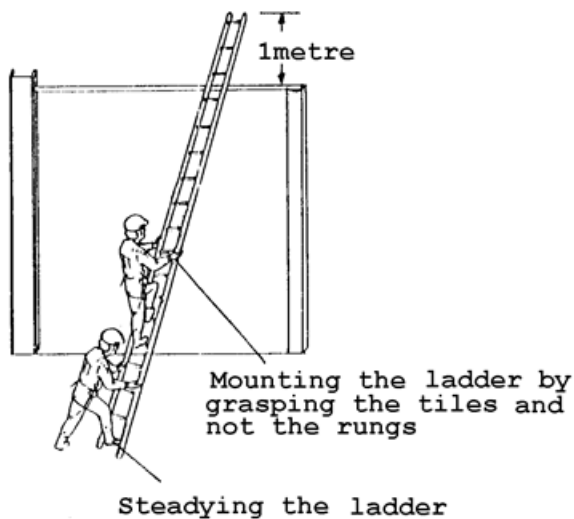

FIG 29.
- Walk forward hand over hand rung by rung until the assistant can get hold of the stiles to help steady the ladder in the vertical position. (Fig 29)